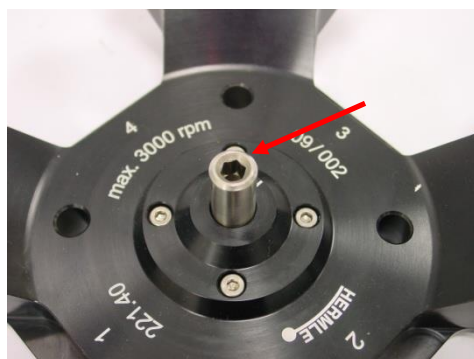

Figure13
Hold the rotor with one hand and secure the rotor to the shaft, by turning the fixing nut clockwise (see Figure 12). Tighten the fixing nut with the provided Allen key, (see Figure13).
**ATTENTION: For safety, always ensure that the rotor fixing screw is tightened before each run, (see Figure13)!**